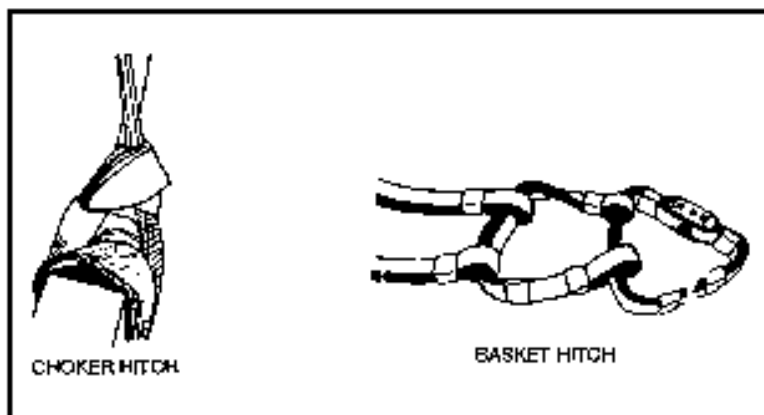

Figure 5-1. Hitches
(2) **Hitches**. When connecting ADS to metal air items or directly to the load, use one of the following hitches (Figure 5-1):
The maximum weight that any aircraft can carry via an external slingload is determined by the structural strength of the cargo hook assembly. In most cases, it is not the tensile strength of the hook that will limit the weight that an aircraft can lift—it is the allowable cargo load that is the limiting factor. The ACL will most always be less than the capacity of the cargo hook assembly (Figures 5-1 through 5-5).